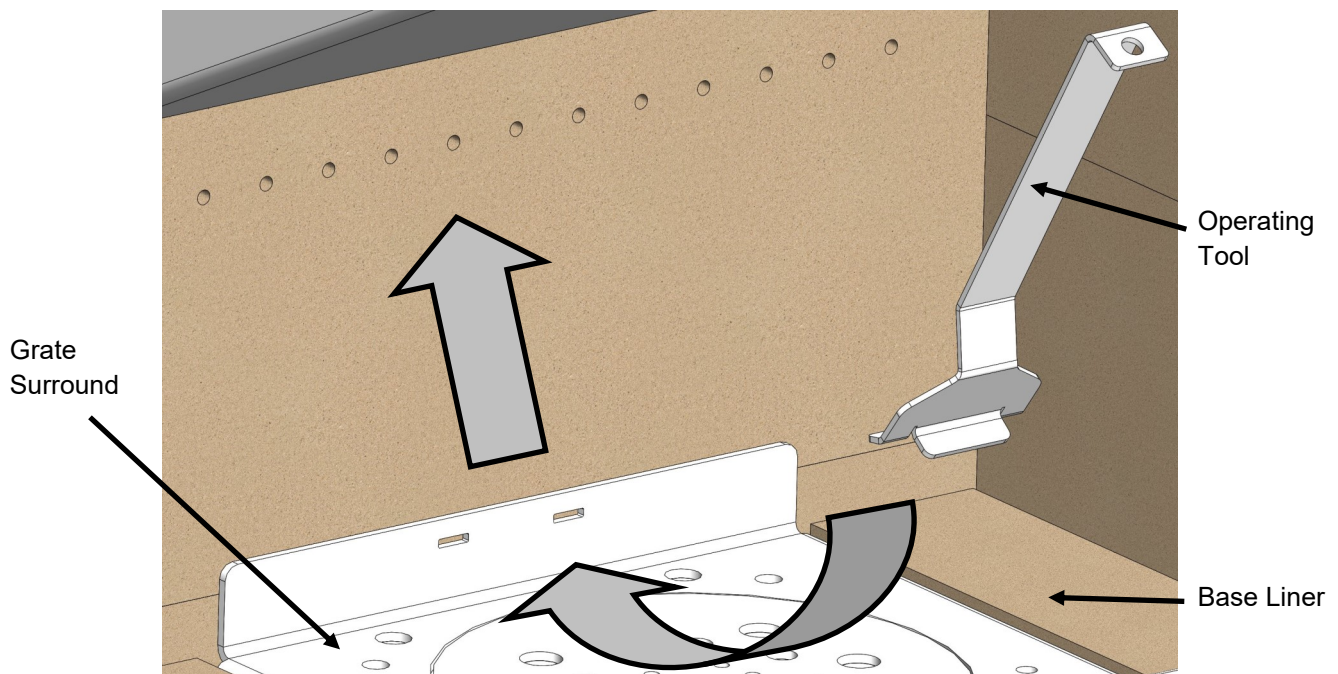

Figure 1. Removing The Grate Surround
Step 2 : Take the operating tool and insert the fork end into the location slots within the rear of the grate surround. Proceed to lift the grate surround up and with draw it from the firebox. See figure 1.